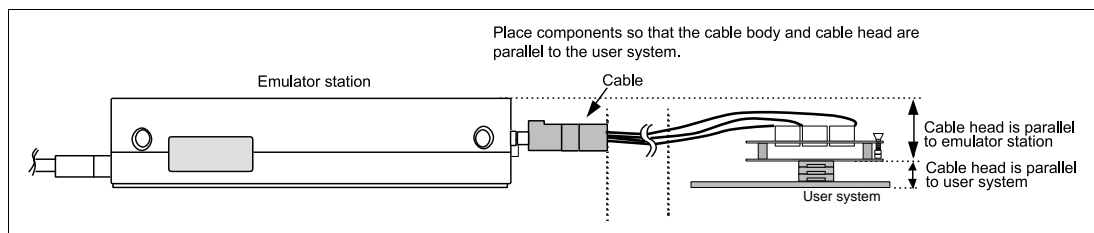

Figure 9 User System Interface Cable Location Example
4. While the emulator station is connected to the user system with the user system interface cable, force must not be applied to the cable head. Place the emulator station, user system interface cable, and user system as shown in the example in figure 9.